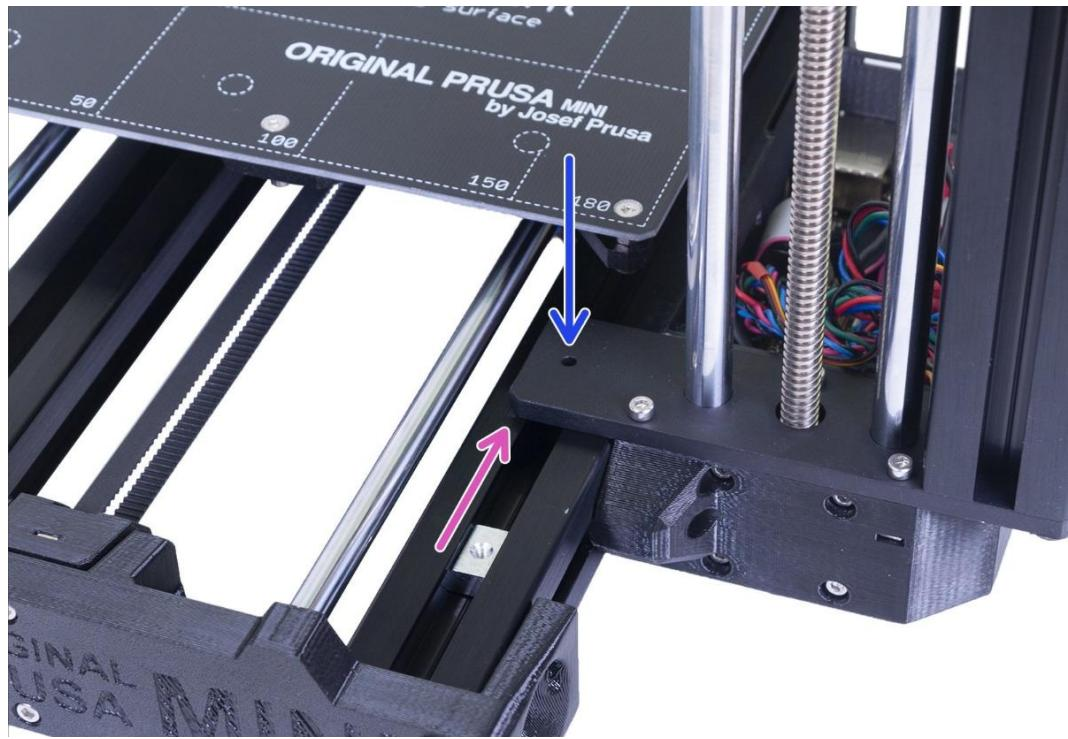

Figure 5.1.14
- A:** As shown in Figure 5.1.14. Now, take the M3nE nut in the upper part of the extrusion and slide it under the steel plate.
- B:** As shown in Figure 5.1.14. Make sure the hole in the nut matches the hole in the plate. Use the Allen key to align it.